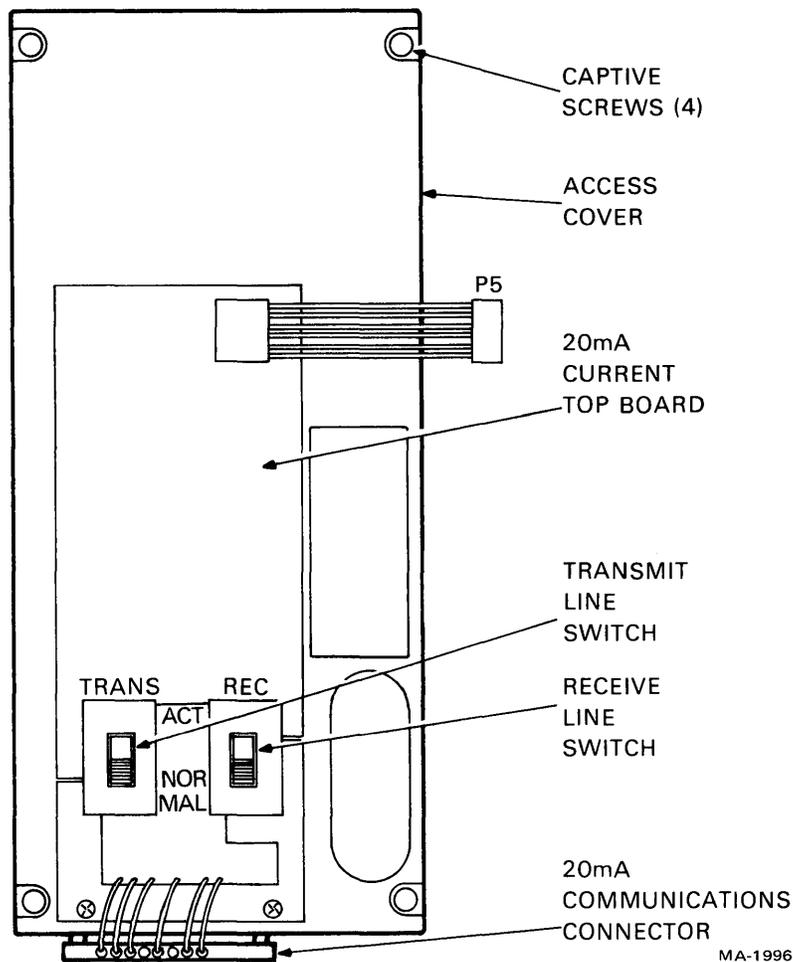

Figure 4-3
6. Set the TRANS switch to the NORMAL position (Figure 4-3). (If the terminal must provide current on the receiver line set the switch to the ACT position.)
7. Set the REC switch to the NORMAL position (Figure 4-3). (If the terminal must provide current on the receive line set the switch to the ACT position.)